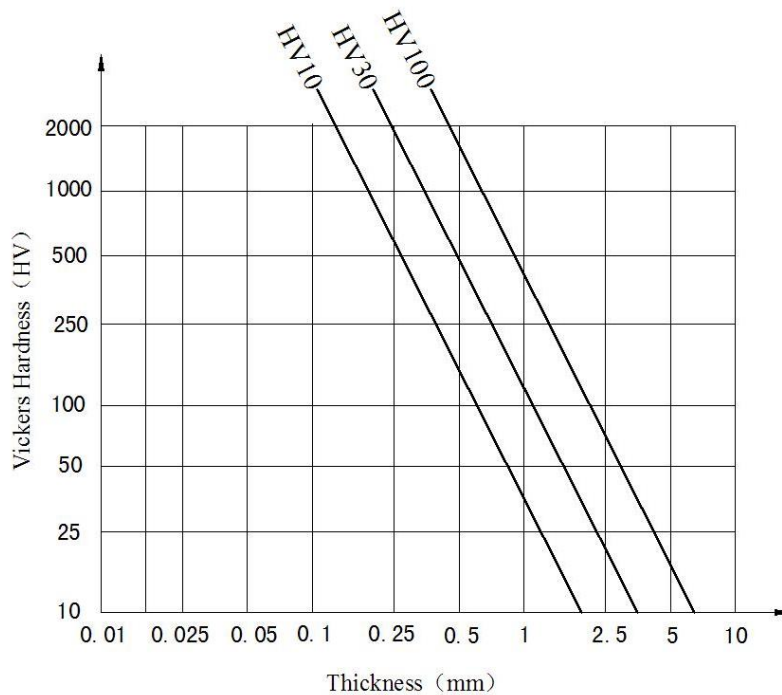

Fig. 8-2
5.6 The thickness of samples must be 1.5 times higher than depth of indentation, no trace on the back of samples (Fig.8-2)